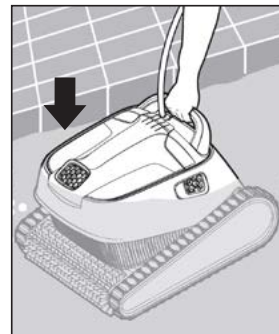

Figure 5
2. Lower the cleaner into the pool by the handle. see **Figure 5**.